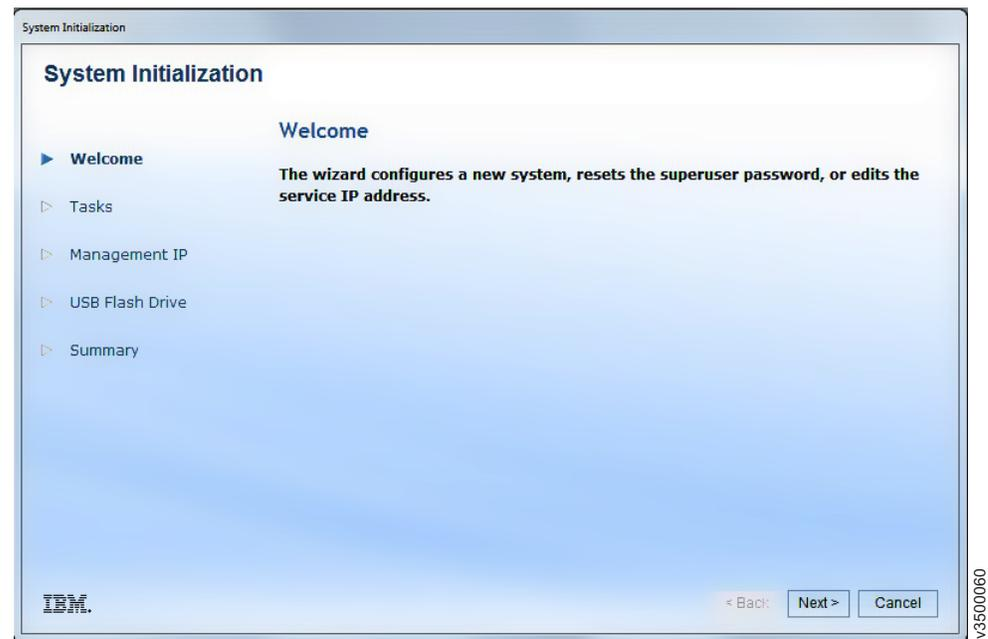

Figure 24. Initialization tool wizard
2. To launch the initialization tool, open the `/mnt/usb` directory and double-click `InitTool.sh`. The initialization tool wizard starts (Figure 24).